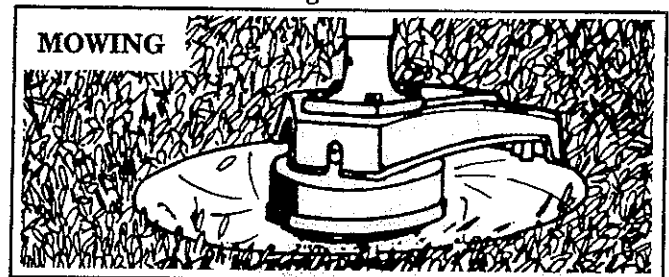

Figure 17
3. **MOWING– Figure 17 .** Your trimmer is ideal for mowing in places conventional lawn mowers cannot reach. In the mowing position, keep the line parallel to the ground. Avoid pressing the head into the ground as this can scalp the ground and damage the unit.